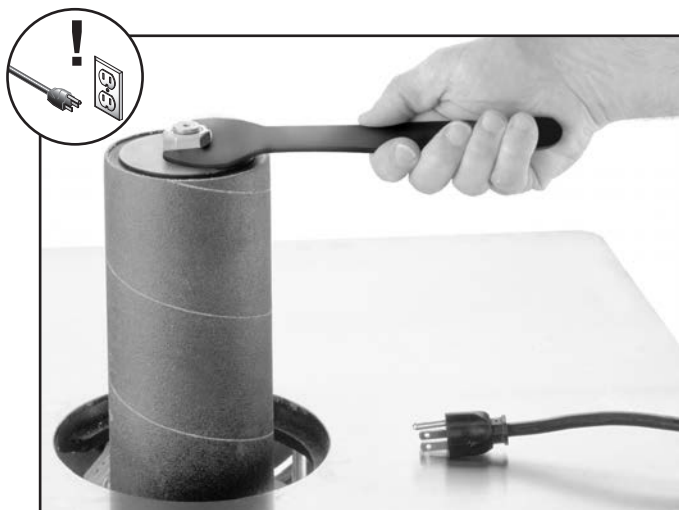

Figure 22. Removing sanding sleeve.
2. Loosen the hex nut located on the top of the spindle as shown in **Figure 22**. The hex nut and flange disk DO NOT need to be removed.